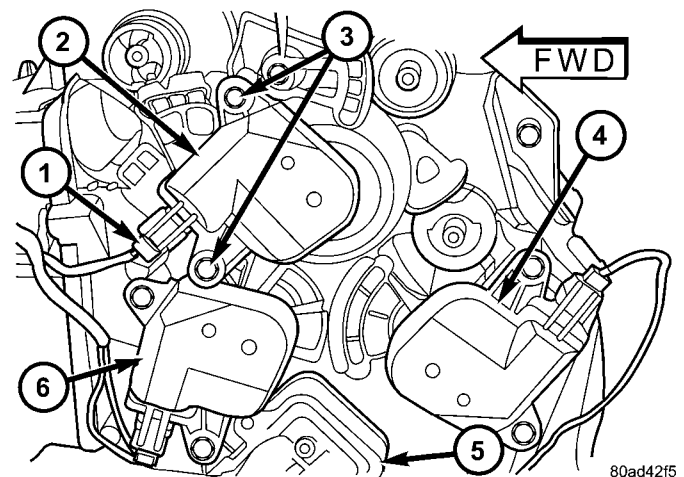

Fig. 14 Blend Door Actuator
- (1) Disconnect and isolate the negative battery cable.
- (2) Remove the silencer from beneath the driver side end of the instrument panel. (Refer to 23 - BODY/INSTRUMENT PANEL/INSTRUMENT PANEL SILENCER - REMOVAL).
- (3) Disconnect the wire harness connector from the blend door actuator being serviced (Fig. 14).
- (4) Remove the two screws that secure the blend door actuator being serviced to the HVAC air distribution housing and remove the actuator.